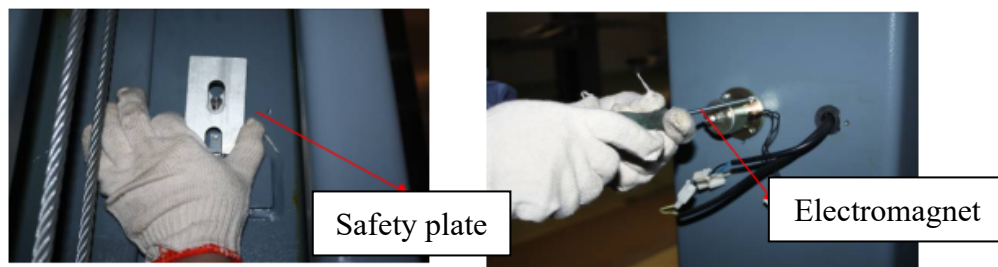
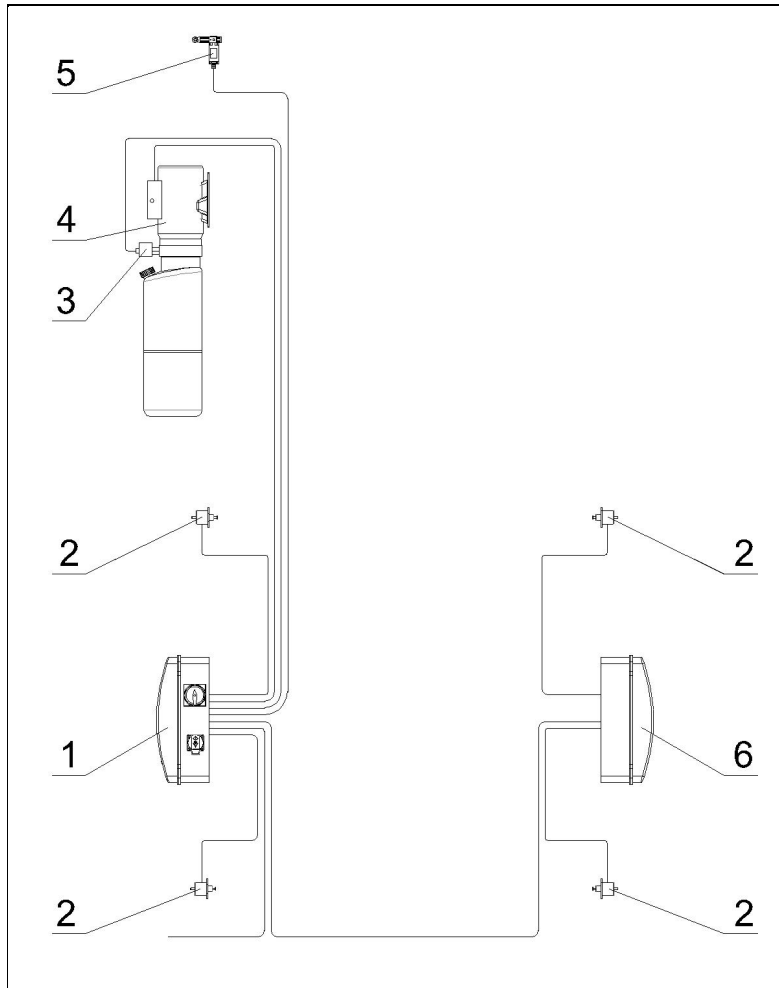

Figure10
Figure 15 Electrical Wiring Diagram
7.8 Install the power unit and control box onto the main column and fasten them with bolts and nuts. Mount the electromagnet and fuse plate (see Figure 10), as well as the limit switch for the main column, then wire up per the electrical wiring diagram in Figure 15. For initial installation and commissioning of the lift, verify the motor rotation direction (clockwise) during wiring. Running the motor with incorrect rotation for prolonged periods may damage the gear pump.